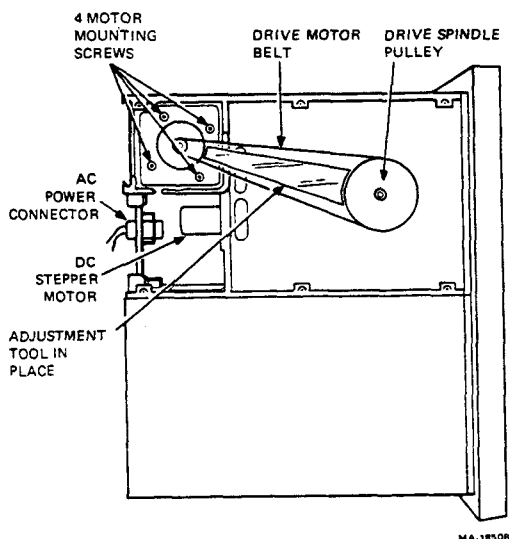

Figure 3-2 Underside View of Drive
4. Use the spacer gauge to check for correct spacing between the pulleys. This is critical for proper belt tension. When the motor and spindle pulleys hold the spacer gauge in place, the spacing is correct (Figure 3-2).
5. If the spacing is wrong, loosen the four motor-mounting screws (Figure 3-2). Adjust the position of the motor for correct spacing and tighten the four screws.